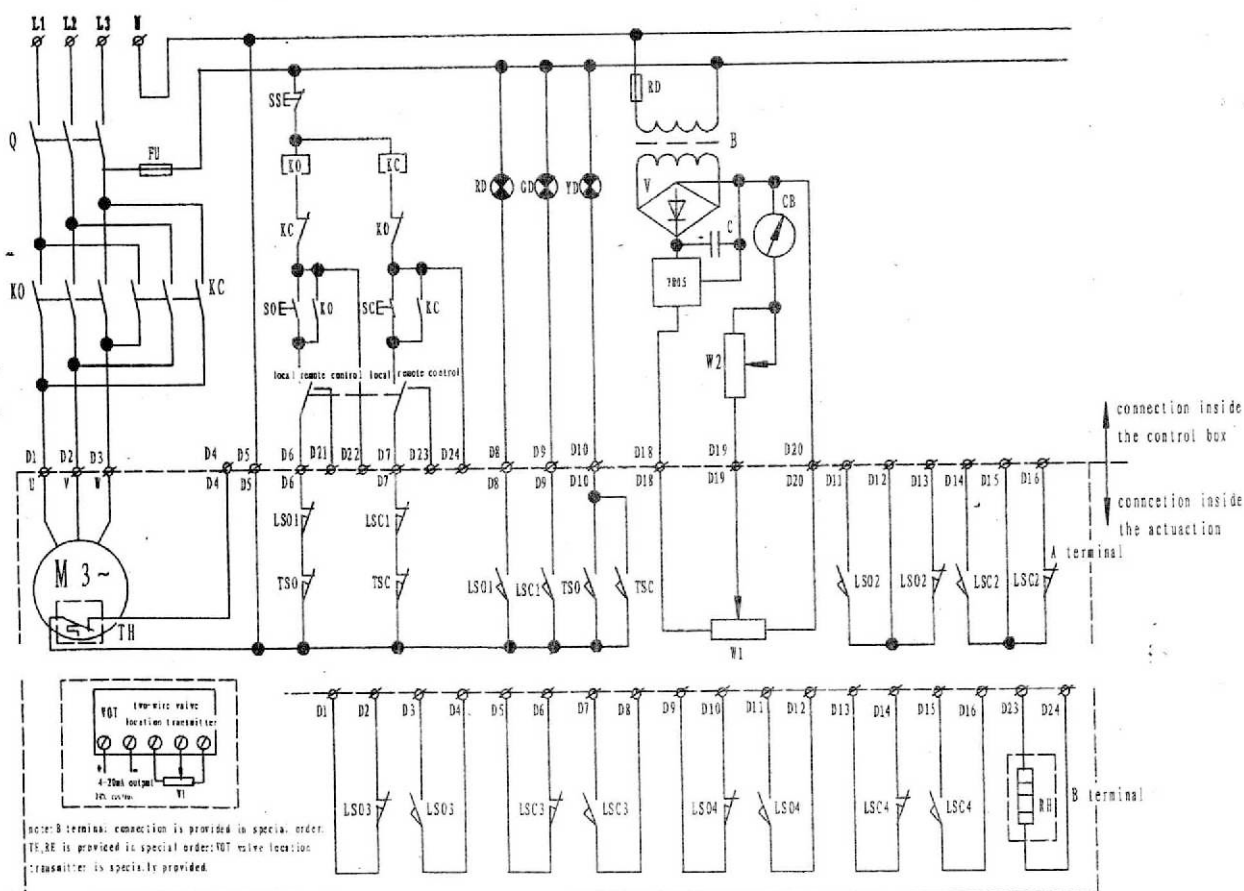

Figure 10
5.8.1 Refer to the Figure 10 for the schematic diagram of electric control of outdoor type and explosion-proof type.